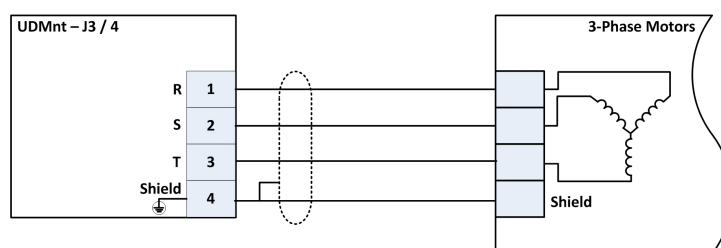

Figure 4-8. Three-Phase Motors (AC synchronous, Step Motor)
- > Three-phase (AC synchronous, step motor), see Figure 4-8